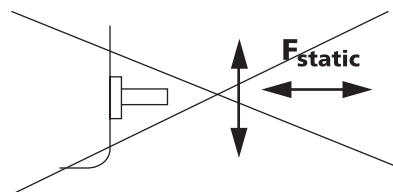

Figure 36
- For manual tripping a force of up to 250 N may be applied to the interlocking pins. However no static force shall be applied (Figure 36).